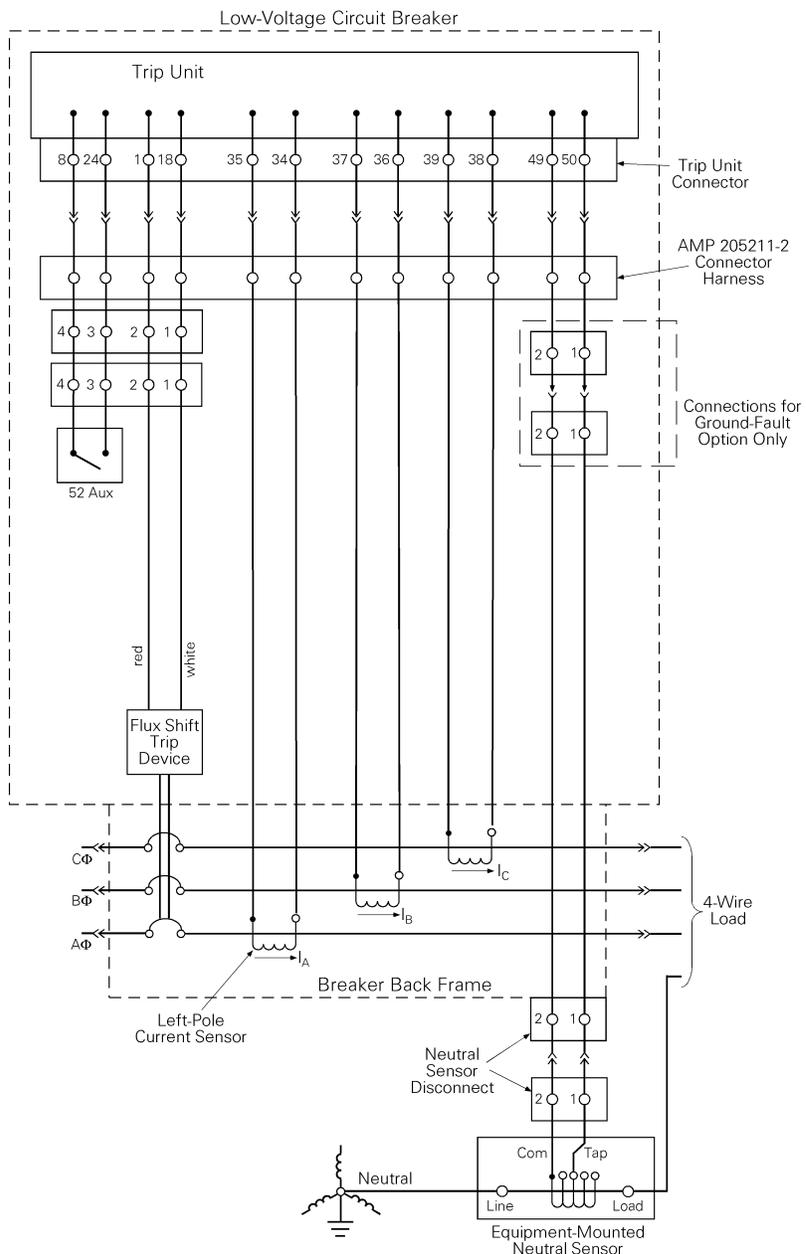

Figure 22. Cabling diagram for ProTrip™ trip units with ground fault on four-wire loads.
common, black lead to tap), as shown in the cabling diagram in Figure 22.
4. On ground fault breakers serving four-wire loads, check that the neutral sensor is properly connected, as indicated in Figure 22. In particular, check the following: